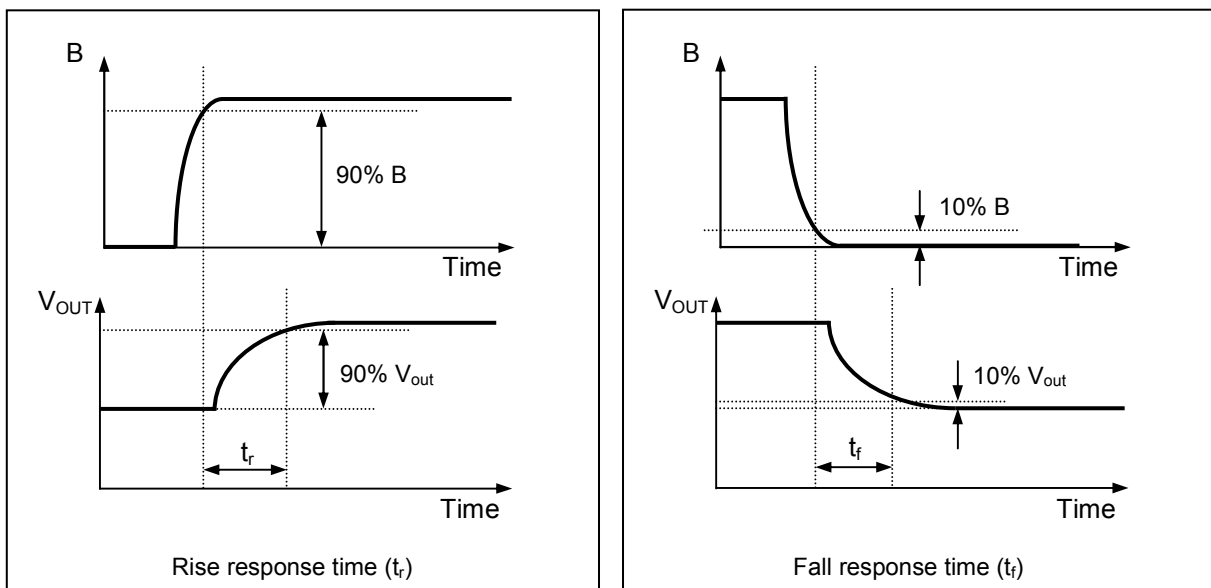

Figure 8. Definition of response time
(6) Rise response time t_r [μs] and fall response time t_f [μs]
Rise response time (or fall response time) is defined as the time delay from the 90% (or 10%) of input magnetic field (B) to the 90% (or 10%) of the OUT voltage (V_{OUT}) under the pulse input of magnetic flux density (see Figure 8.)